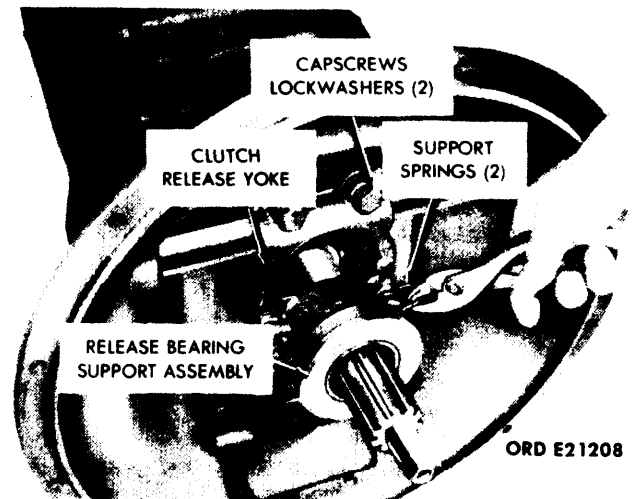
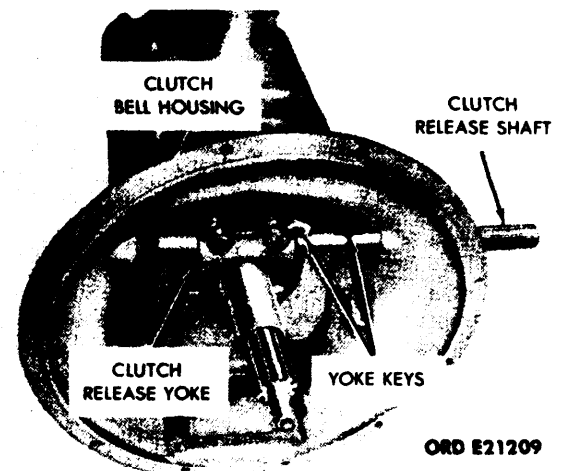

Figure 3-16. Removal of Clutch Release Bearing Support Assembly.
Figure 3-17. Removal of Clutch Release Yoke and Release Shaft.
(1) Unhook the two support springs securing the release bearing support assembly to the clutch release yoke and remove from the input shaft bearing cap. (See fig. 3-16.)
(2) Remove the two capscrews and lockwashers securing the clutch release yoke to the clutch shaft. (See fig. 3-16.) Partially slide the clutch release shaft through the clutch bell housing and remove the two yoke keys from the shaft. (See fig. 3-17.) Remove the clutch release yoke from the shaft and complete the removal of the clutch release shaft from the clutch housing.
(3) Remove the five capscrews and lockwashers securing the clutch bell housing to the transmission